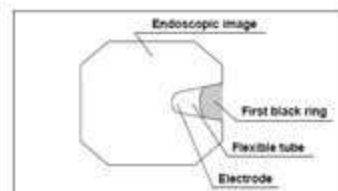

Figure 4.9
- Make sure that the distal end of the APC probe always lies more than 10 mm from the endoscope's distal end (see Figure 4.9). The protrusion by 10 mm or more can be identified when the first black ring on the APC probe's distal end is visible in the endoscopic image. Otherwise, the treated region cannot be irradiated correctly and the endoscope may be damaged. Using a damaged endoscope may cause patient injury.